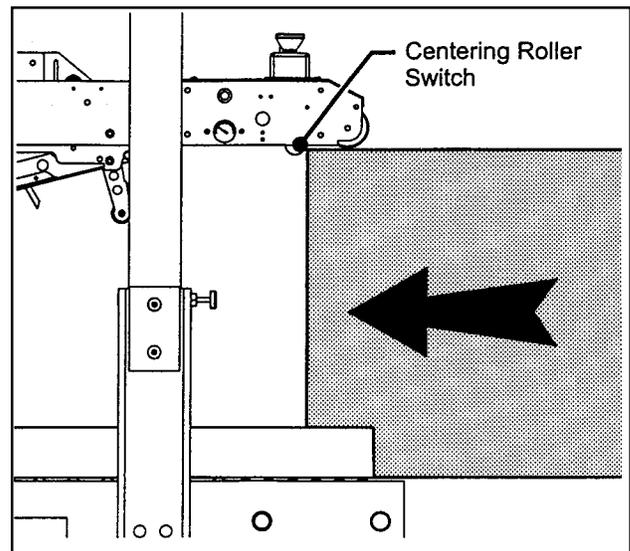

Figure 3-8 – Operation 8888 – Operation
4. Box is then pushed under belt centering roller switch (Figure 3-8), which closes drive belts and conveys box through machine.